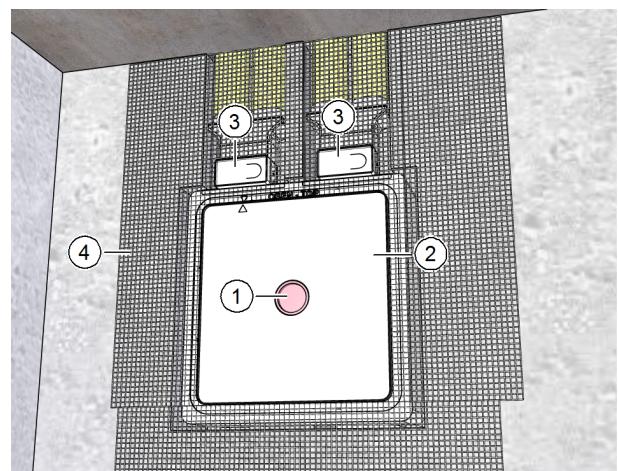

Fig. 20: Plastering the wall box on the inside
- ▶ Make sure that the signal cover (item 1 in Fig. 20) is seated in the protective cover (item 2 in Fig. 20).
- ▶ Make sure that the protective covers (item 3 in Fig. 20) are seated in the flexible pipe connections.
- ▶ Apply the plaster scrim M-WRG-PG (item 4 in Fig. 20 on page 16) to the wall box and the solid wall.